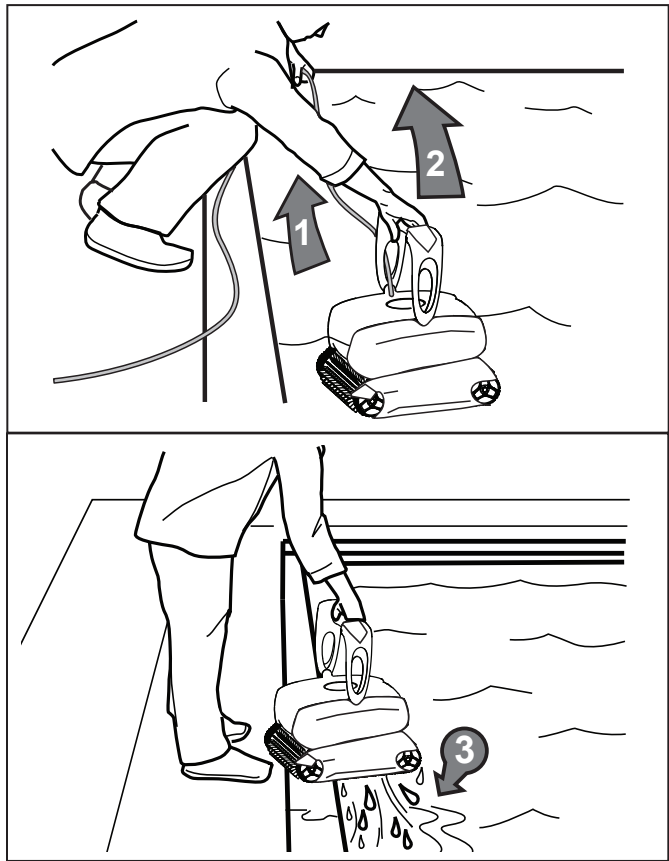

Figure 14. Lift Cleaner From Pool with Handle, then drain Out the Water
3. Use the handle to lift the cleaner from the water and hold the cleaner vertically over the pool surface to drain (see Figure 14).